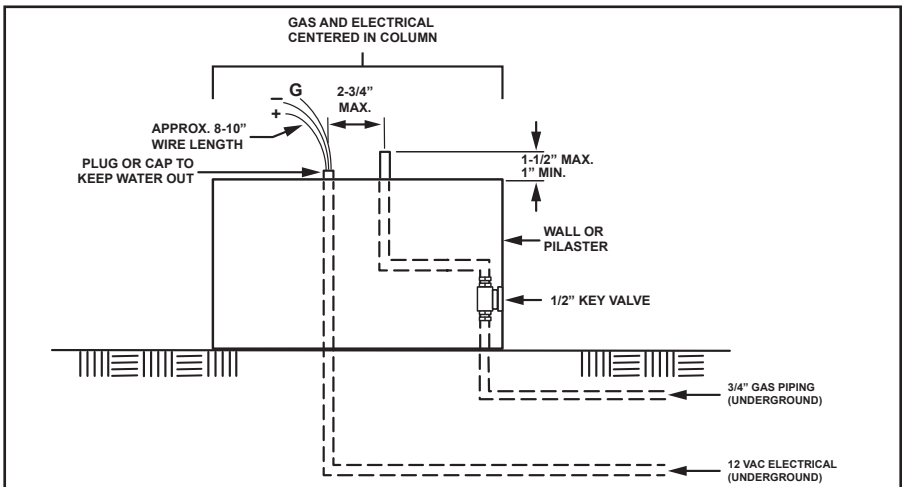

Figure 6. Piping
3. The piping must be reduced to 1/2" NPT or larger at each bowl, as shown in Figure 6.